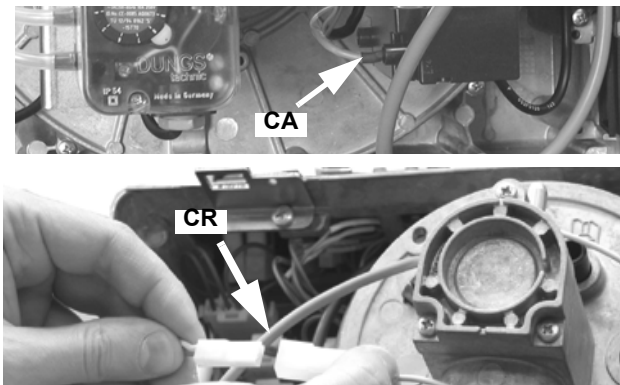

Fig. 48
- 3 Disconnect the ignition cable **CA** from the ignition transformer (Fig. 48).